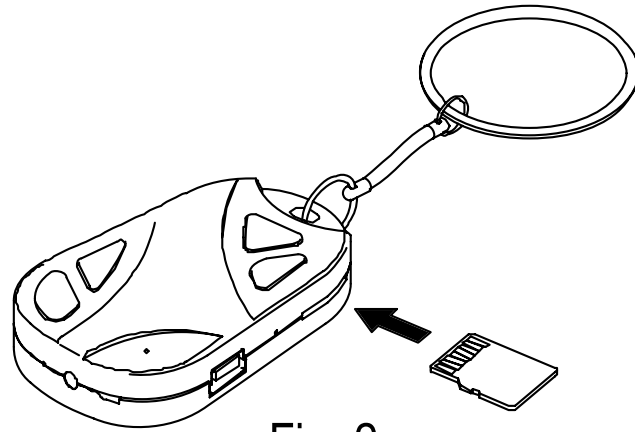

Fig. 2
1. Insert a suitable microSD card in the card slot provided (Fig. 2). Press the card in until it audibly clicks in place (microSD cards, refer to *Technical Data*).